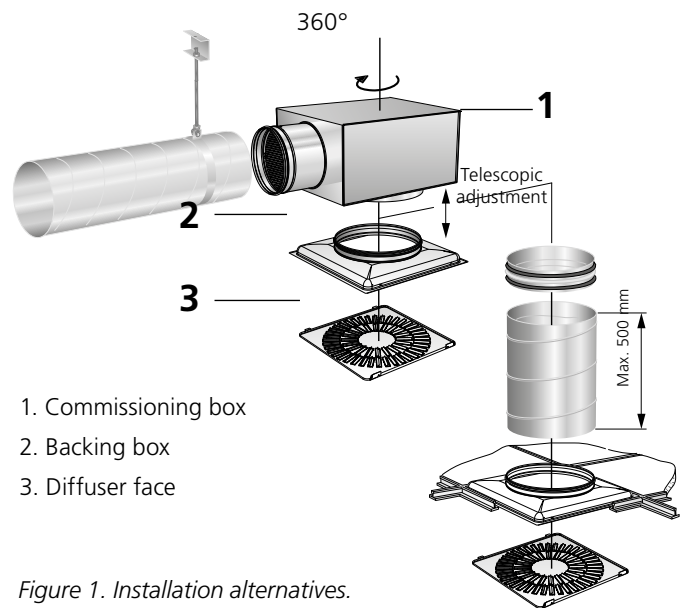

Figure 1. Installation alternatives.
- The distance between the commissioning box and the air diffuser can be increased by 500 mm with a circular duct without having to lengthen the measuring tubes and damper commissioning cords, see figure 1.